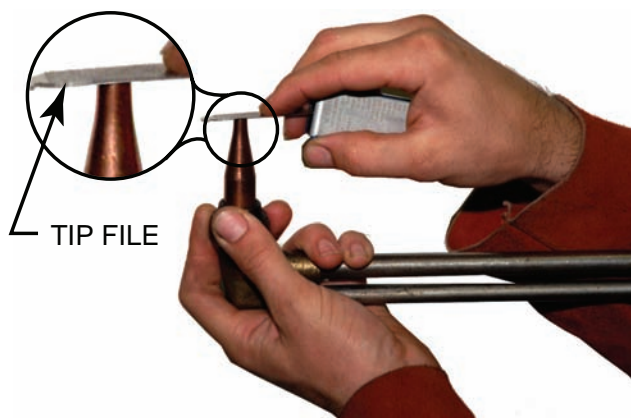

FIGURE 6-16 File the end of the tip flat. Courtesy of Larry Jeffus.
2. The end of the tip is first filed flat, using the file provided in the tip cleaning set, Figure 6-16.